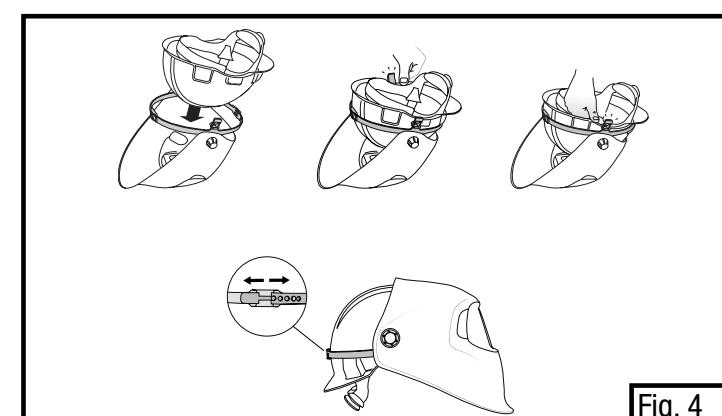

Fig. 4
- Attach the 3M™ Speedglas™ 100 assembly to the hardhat as shown in Fig. 4 and adjust the Hardhat Adapter "pin lock" for a tight fit around the hardhat for a completed assembly.